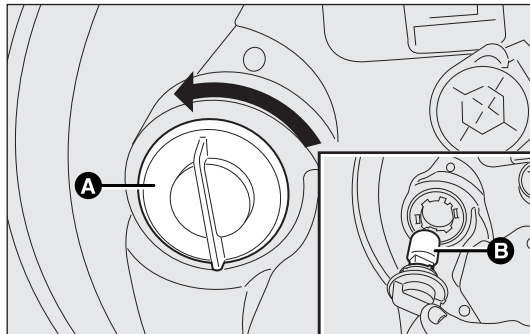

fig. 167
- turn the bulb holder A-fig. 167 anti-clockwise using the tab and pull it out;